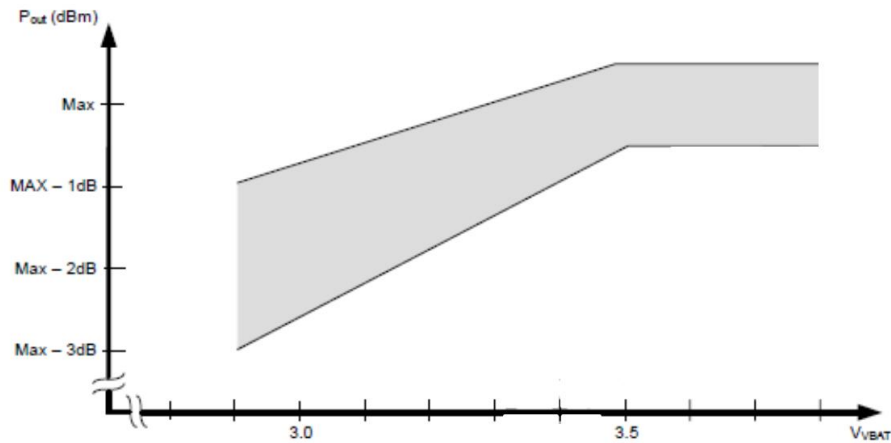

Figure 3: Output Power vs. VCC voltage
- 4) TX Output power varies with temperature as shown in Figure 3